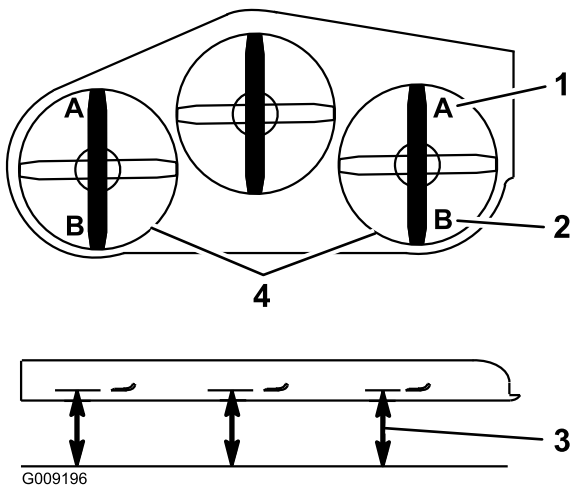

Figure 89
9. On both sides of the deck, measure from the level surface to the front tip of the blade (Position A). The measurement should read 3 inches (7.6 mm) (Figure 89).
15. On both sides of the deck, measure from the level surface to the back tip of the blade (Position B). The measurement should read $3 \frac{1}{4}$ inches (8.3 cm) (Figure 89).